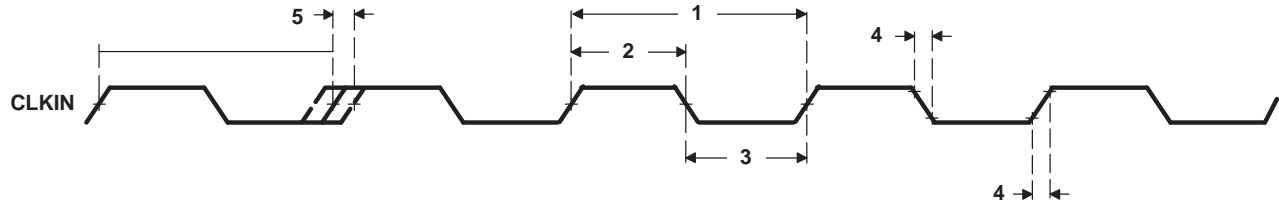

Figure 5-5. CLKIN Timing
5.1.1 Timing Requirements for CLKIN for –50xEP Devices^{(1) (2) (3)} (see Figure 5-5)